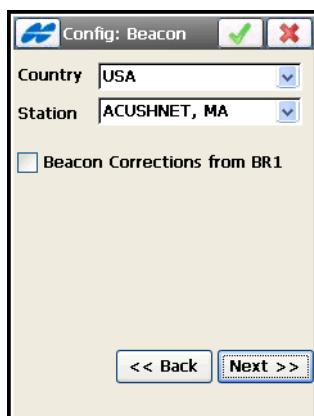

Figure 4-53. Config: Beacon
- For Radio Beacons, select the country and the name of the beacon station (Figure 4-53).